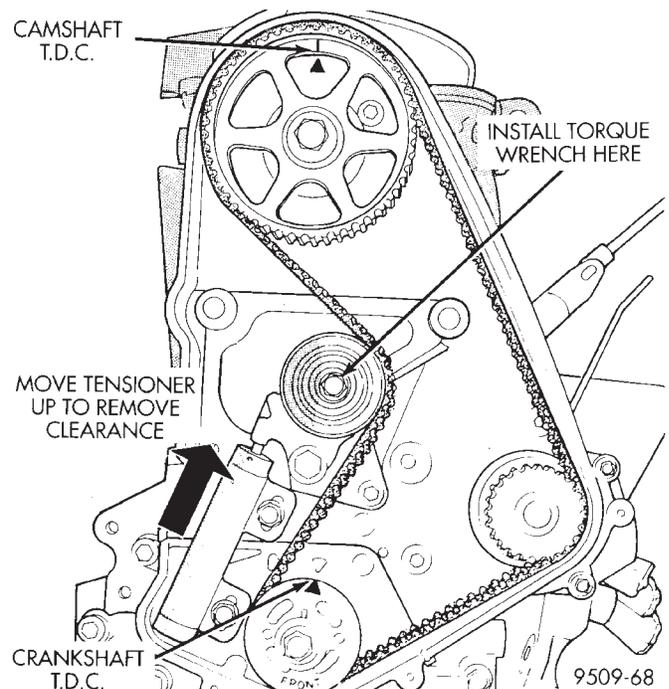

Fig. 38 Adjusting Timing Belt Tension
(8) Move crankshaft sprocket to TDC to take up belt slack. Install tensioner to block but do not tighten fasteners.
(9) Using a torque wrench on the tensioner pulley apply 28 N·m (250 in. lbs.) of torque (Fig. 38).
(10) With torque being applied to the tensioner pulley move the tensioner up against the tensioner pulley bracket and tighten fasteners to 31 N·m (275 in. lbs.) (Fig. 38).
(11) Pull tensioner plunger pin. Pretension is correct when pin can be removed and installed.
(12) Rotate crankshaft 2 revolutions and check the alignment of the timing marks (Fig. 38).
(13) Install front half of timing cover.